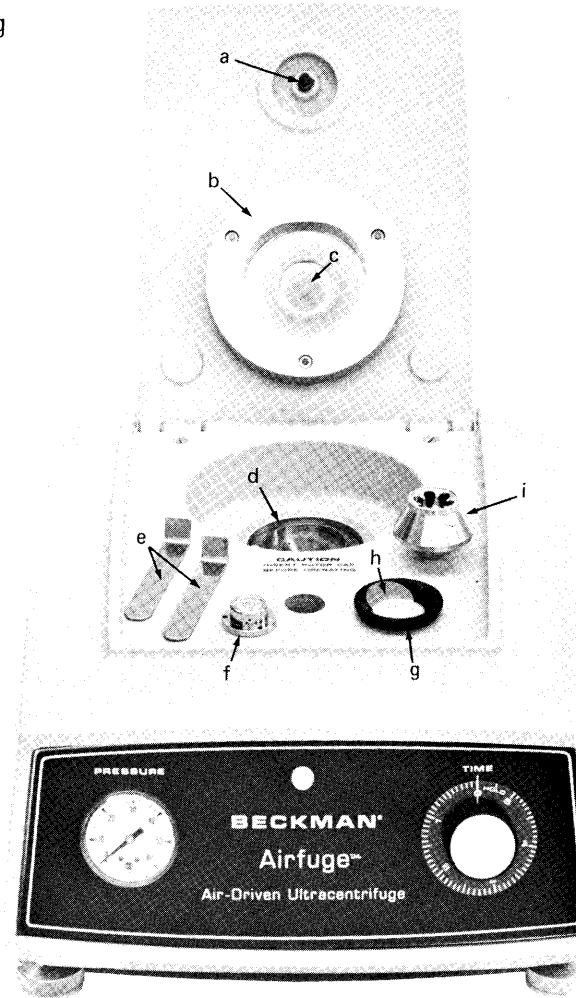

Figure 1-3. Components and Accessories
1. Remove the stator pad from the instrument. (The pad is shown in Figure 1-3.)
4. Place the black, ring-shaped stator pad on the stator. You are now ready for a trial run. (The pad is shown in Figure 1-3.)